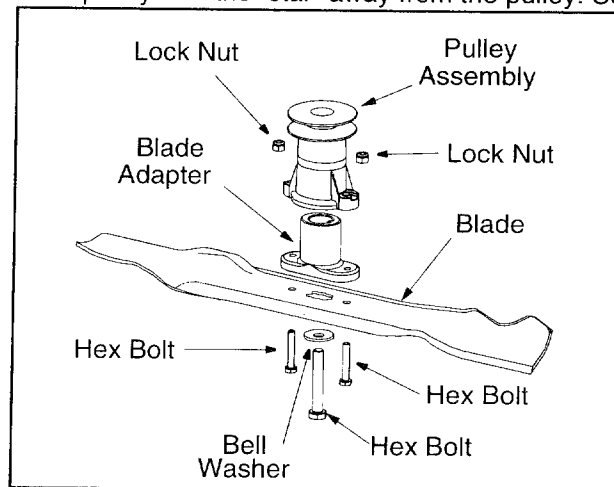

FIGURE 19
- Remove the bolt and bell washer that hold the blade-pulley assembly to the engine crankshaft. See Figure 19. Remove the assembly from the crankshaft.
- Install the blade adapter on the pulley with the “star” away from the pulley. See Figure 19.